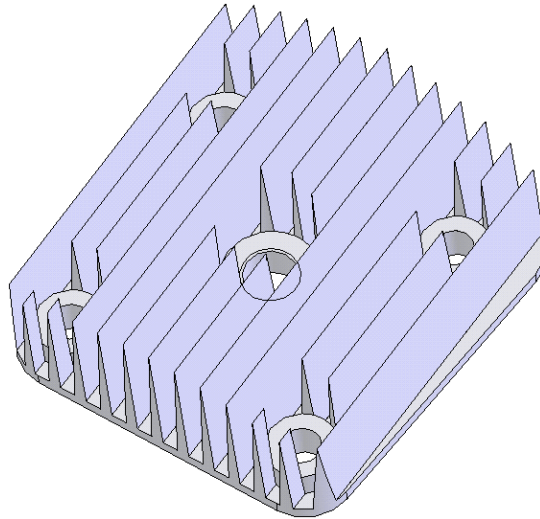

Figure 7-93 Final solid model
- h. Add a tap hole using the hole wizard, refer to Figure 7-93.
The rotated final model is shown in Figure 7-93.